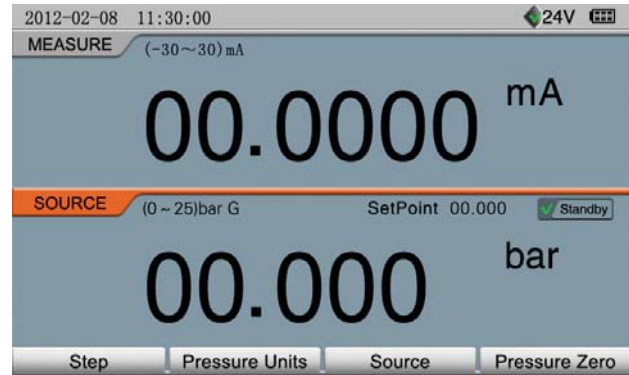

Figure 2-8 Main screen
- ◆ After a short time the system enables the home screen and enters STANDBY mode as shown in Figure 2-8.